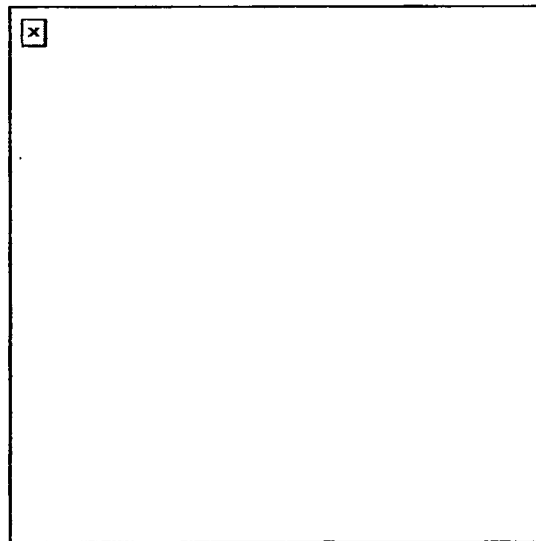

Figure 1. Removal of feed throat assembly
- a. Place the safe/fire switch in the safe (S) position. Ensure the bolt is forward.
- a. Remove the feed throat assembly (Figure 1). Squeeze the two sets of grip pins together and pull them straight out.